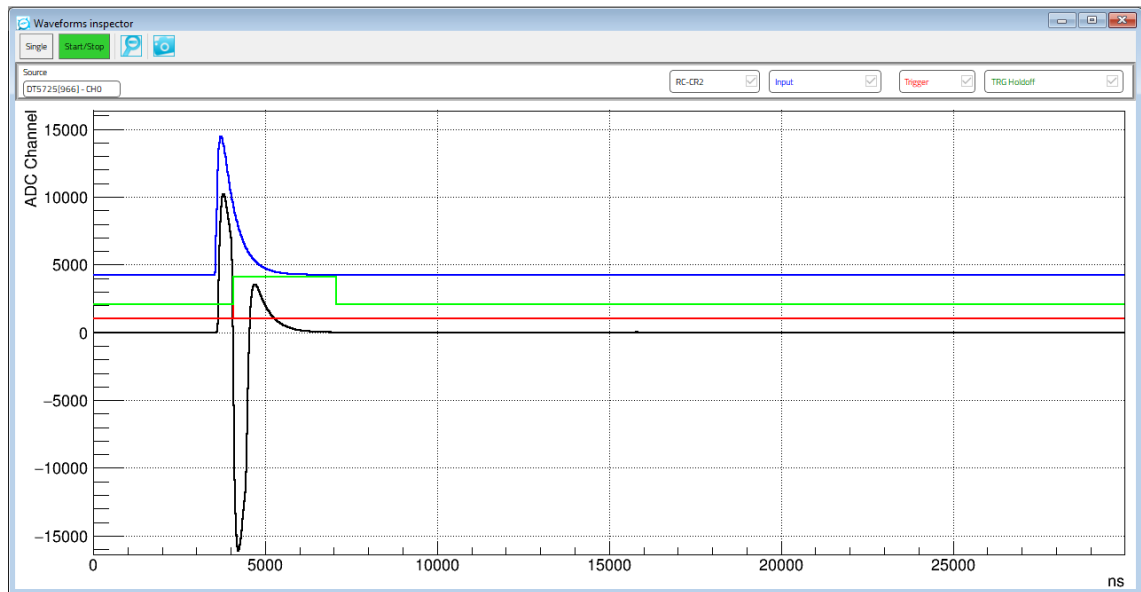

Fig. 2.75: RC-CR² signal with an overshoot. Set the Trigger Hold-Off to cover the overshoot and avoid re-triggering.
3. In case the RC-CR² shows an overshoot (see Fig. 2.75), set the “Trigger Hold-Off” value as long enough to eventually include the overshoot inside it. The algorithm then inhibits any trigger occurring during the whole “Trigger Hold-Off” duration. Check the correct value by enabling the visualization of the “Trigger Hold-Off”.